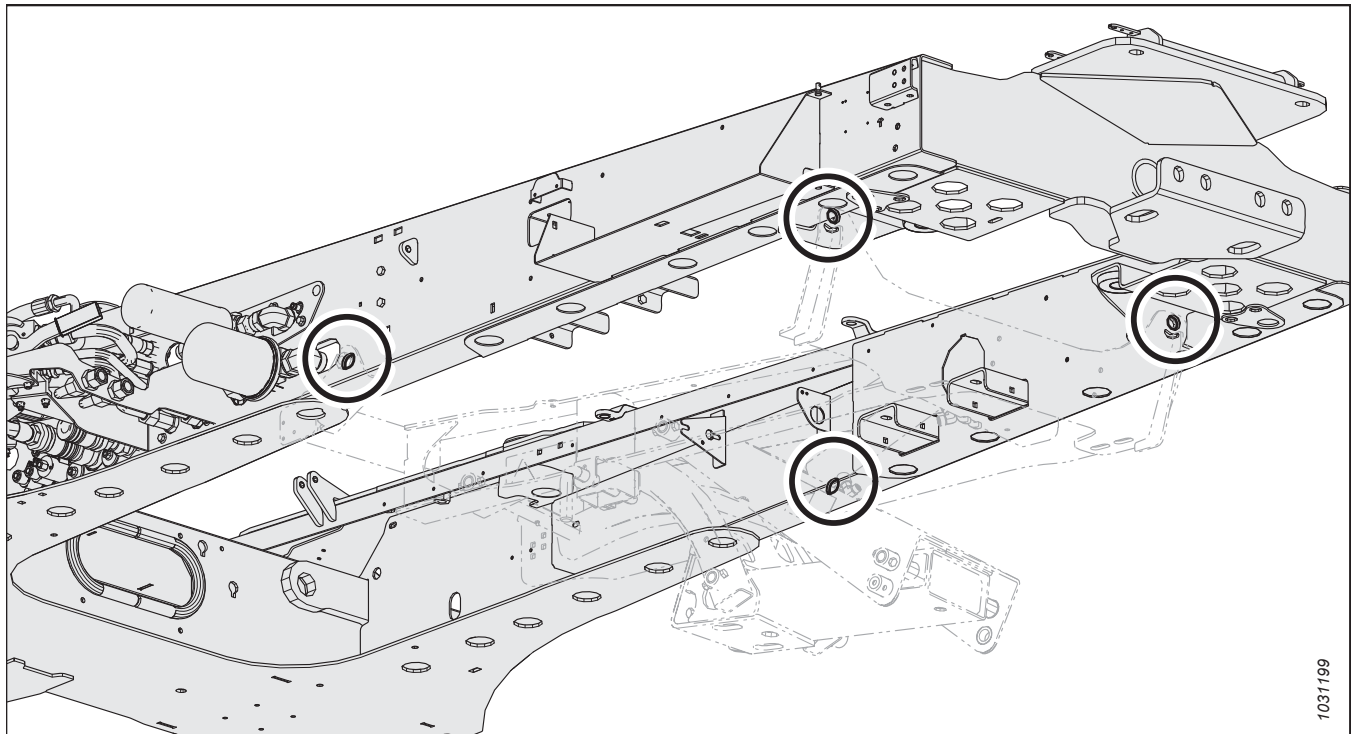

Figure 2.5: Connection Points – View from below Windrower
- Align linkage (A) with the windrower connection points shown in Figure 2.5, page 19.